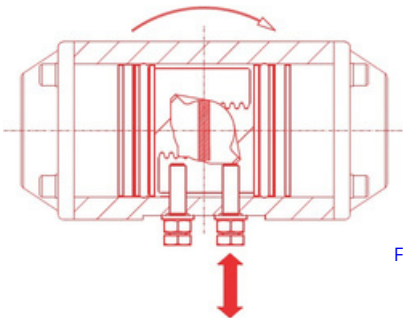

Fig.11
- Actuators with assembly variations "A" (standard) and "B" (see Part 10 - A, B, C, D, ASSEMBLY SCHEMES) are identified by CW rotation on the nameplate: for adjustment in closing, please adjust the RIGHT screw, see Fig.11.